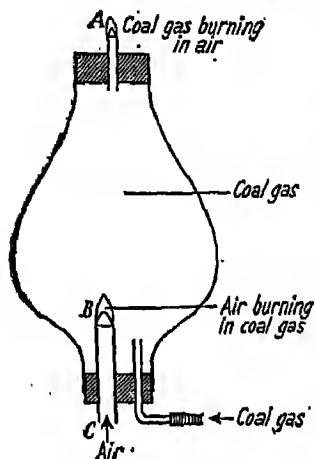

FIG. 112. Burning air in coal-gas.
**Expt. 154.** Fix up a lamp chimney as shown in Fig. 112. The lower end is fitted with a cork carrying a wide glass tube *BC* and a narrower tube connected to the gas supply.